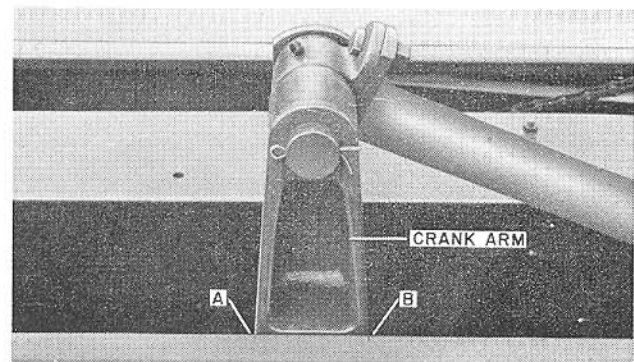

FIGURE 15
2. Turn the flywheel counter-clockwise until the crank is in a vertical position between the timing marks, "A" and "B" (Fig. 15), on the upper side of the bale chamber.